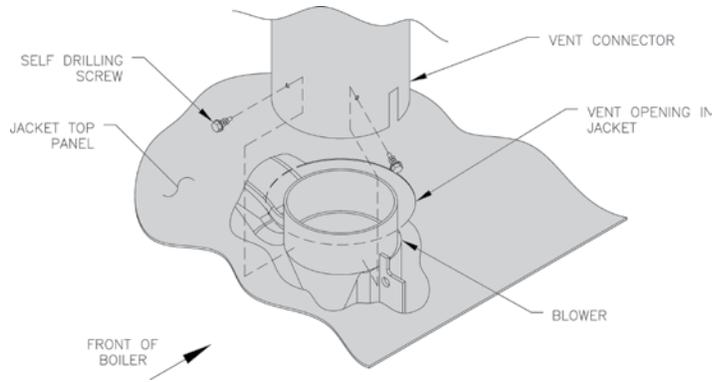

Figure 28: Blower Vent Connector Assembly
14. Connect vent system. See Figure 28.